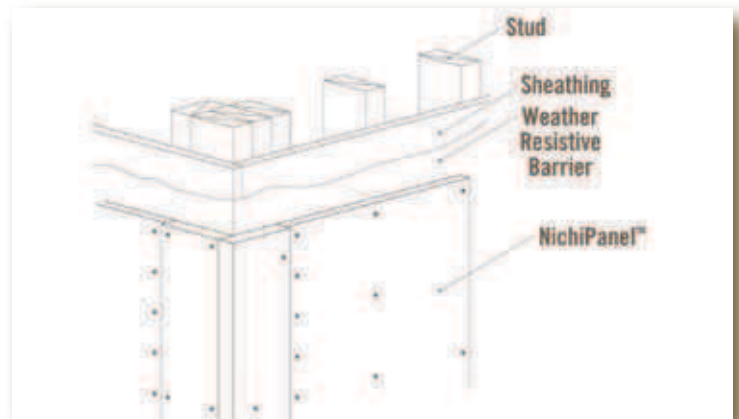

Fig. 8.6
- Leave a 1/8” or appropriate gap between the siding and trim and caulk in accordance to caulk manufacturer’s recommendations. (Fig. 8.6)